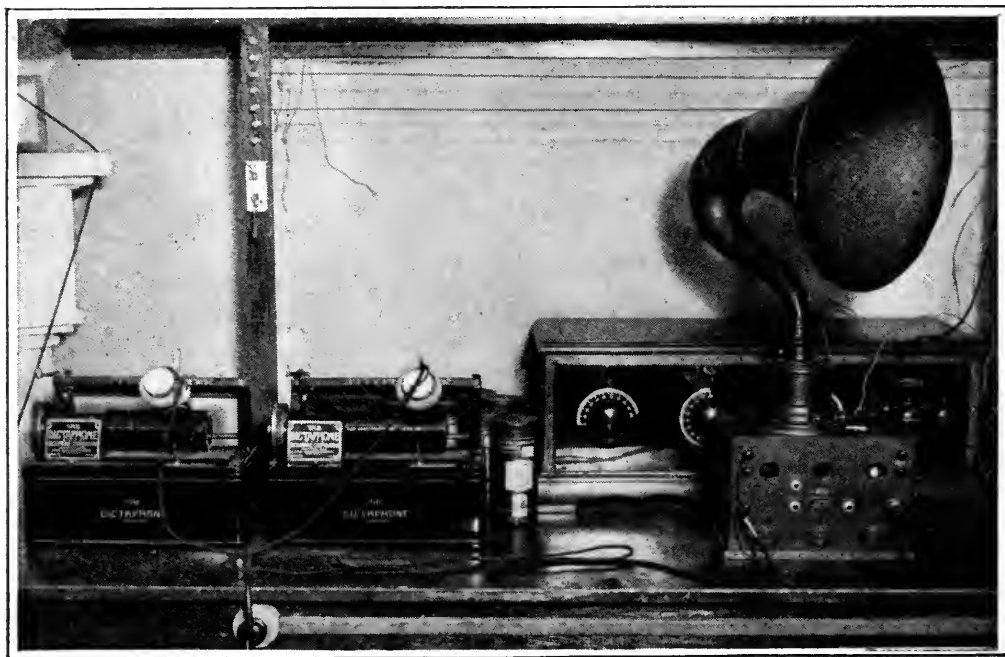

FIG. 2
**T**HERE are two convenient ways of reproducing the radio records. The first, and perhaps more satisfactory method, is to employ the standard dictaphone transcribing machine, listening in the customary manner through the rubber tubing. The second, and more spectacular system, is to reproduce electrically, amplifying the sound and outputting it to a loud speaker. This method is illustrated in Figs. 2 and 3.